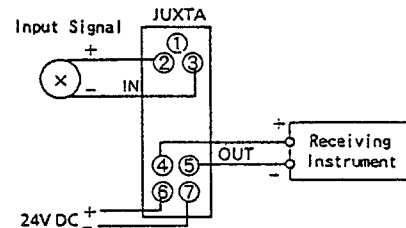

Fig.10 Wiring of Calibration Equipment
- ① Connect each equipment as shown in Fig. 10.
- ② Input/output characteristic check